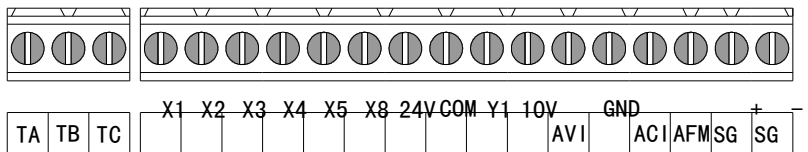

Fig.3-4 Control Circuit Terminal
1. Control circuit terminals are shown in the figure 3-4